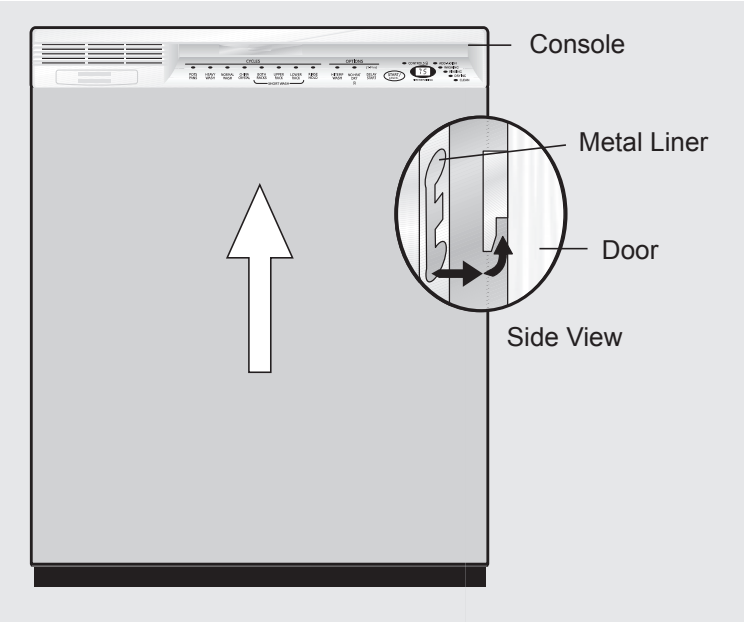

Figure 20
5. When ready to replace door, fit the slots on each side of top door edge over the tabs on the metal liner. Push on sides to insure the door is flat. Push up from bottom until there is no gap between door and console. **See Figure 20.**